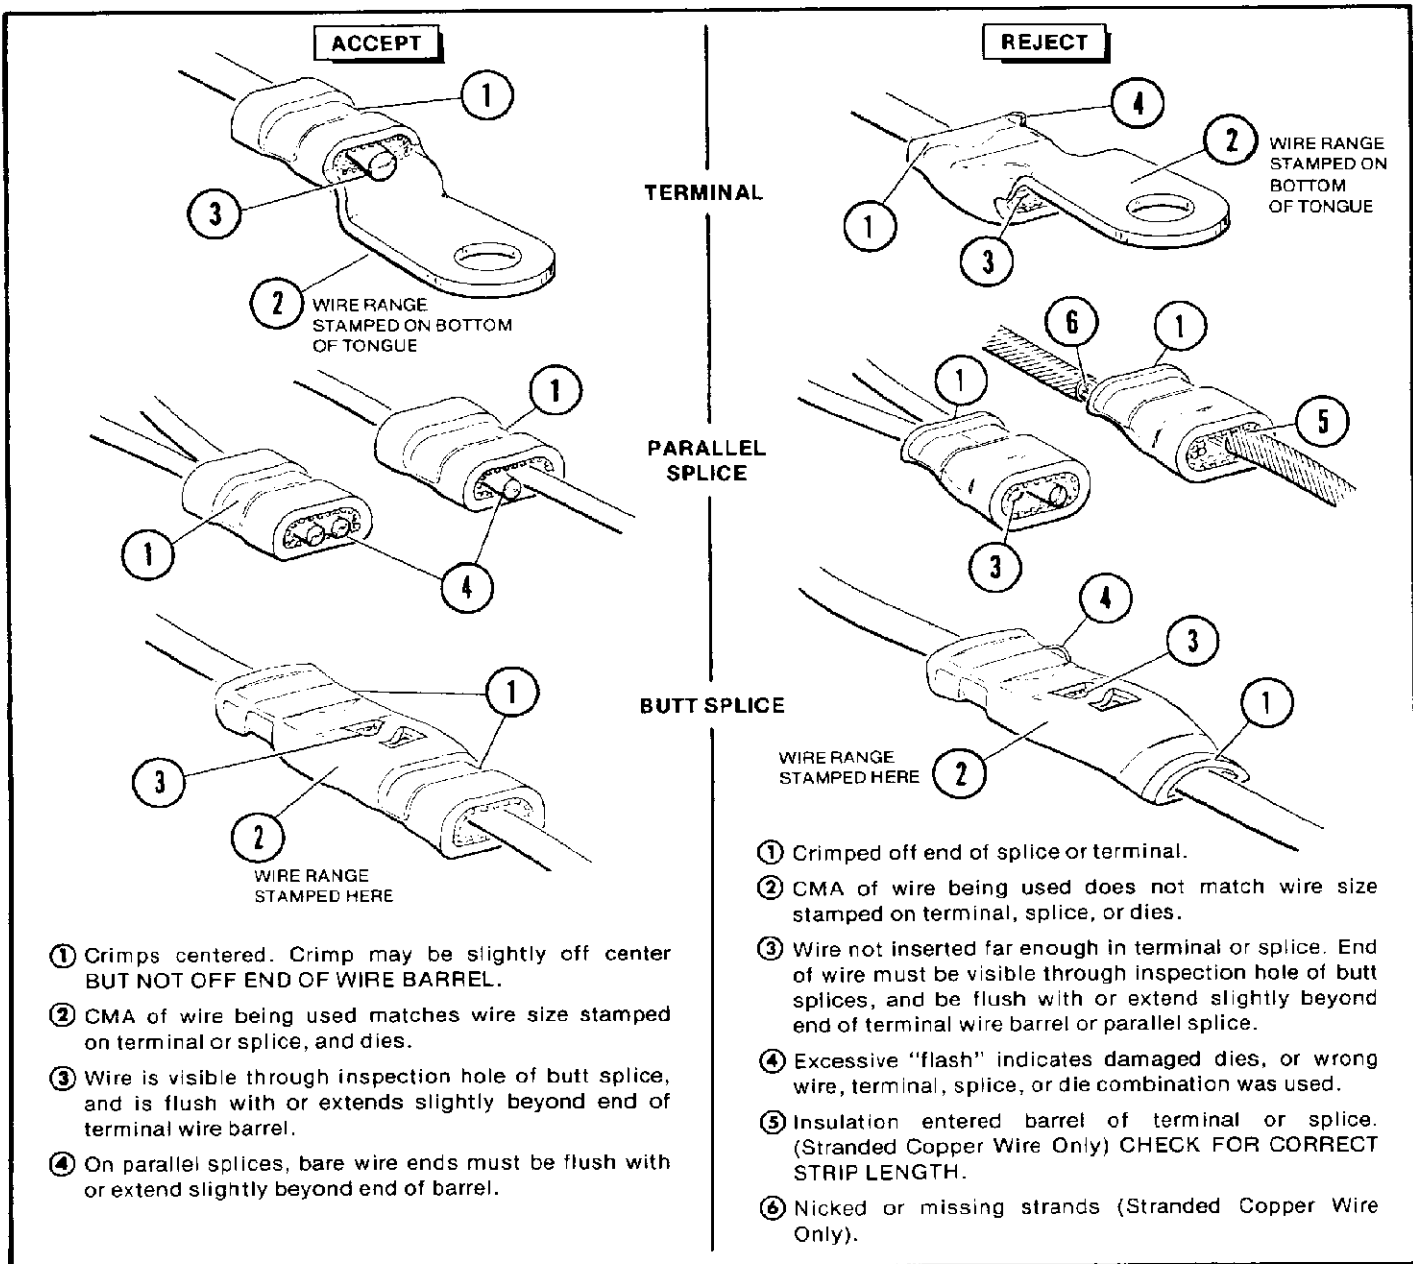

Figure 5
- Refer to paragraph 3 and Figure 5 for crimp inspection.
- (g) Refer to paragraph 3 and Figure 5 for crimp inspection.
- (e) Refer to paragraph 3 and Figure 5 for crimp inspection.
Inspect crimped terminals and splices by checking the features described in Figure 5.